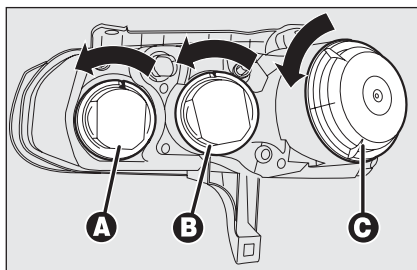

fig. 22
The bulbs are arranged inside the light unit **fig. 22** as follows:
- ☐ remove cover **A-fig. 22** by turning it counter-clockwise;
- ☐ turn cover **B-fig. 22** counter-clockwise;
- ☐ turn cover **C-fig. 22** counter-clockwise;